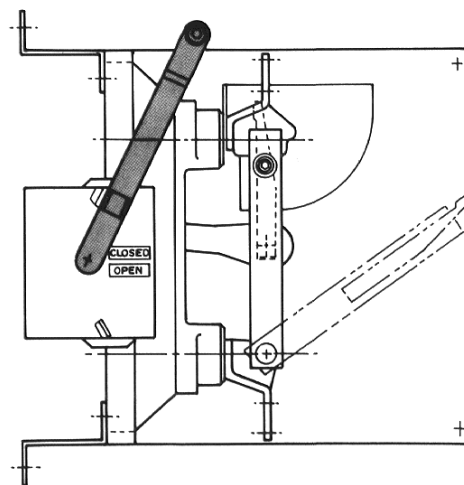

Fig. 5 Handle "UP" in switch closed position.
The component parts for this type of arrangement are shown in Fig. 5. The switch and frame are mounted vertically in the enclosure. The arc chute interrupter is situated above the blade hinge. The switch has a direct drive operator and the handle is mounted on the left side of the enclosure. The handle is in the "UP" position with the switch closed for this arrangement.
- a. Mount the frame-mounted switch (Fig. 5) in the enclosure. Check to be sure the 2-1/4" dimension from frame-mounting holes to outside of enclosure (per Dwg. 424-014) has been maintained.
- d. Move handle to the "UP" or closed position as shown in Fig. 5 and engage hub and key of handle with the shaft extension and keyway of the stored-energy device.